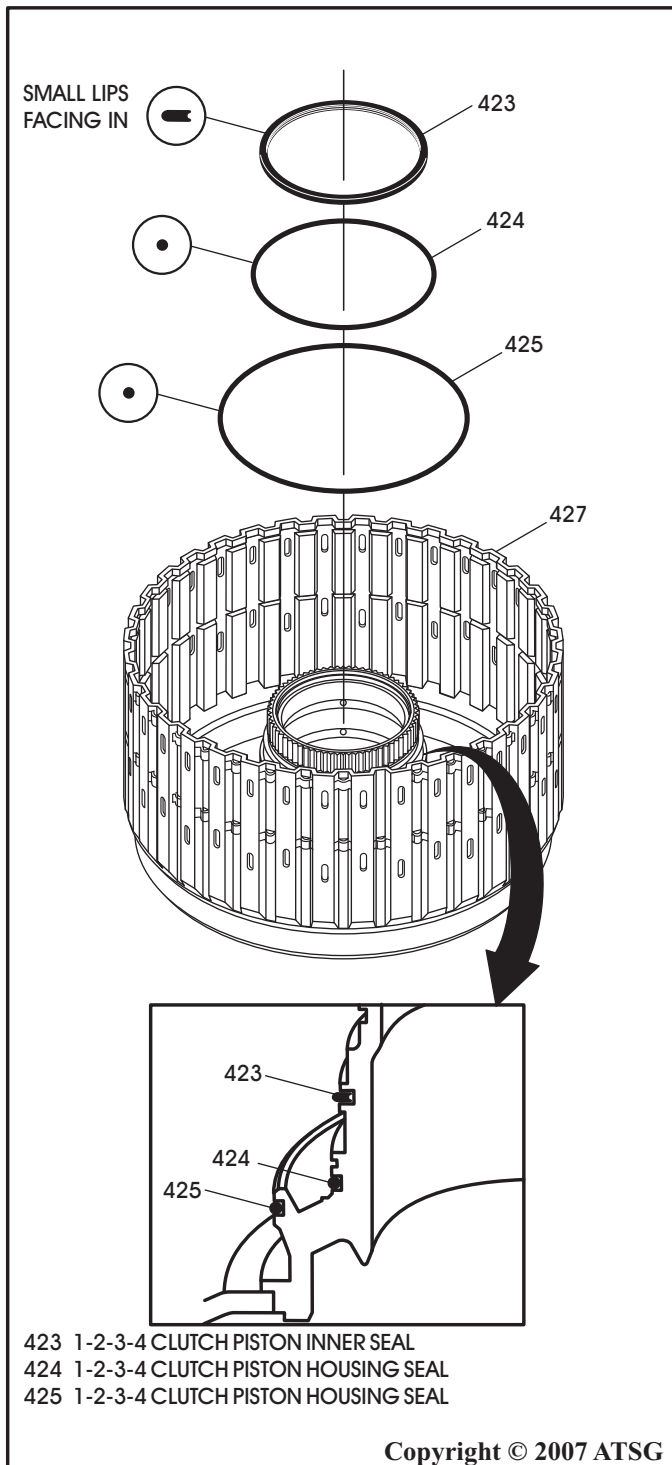

Figure 94
9. Install only the two "O" ring seals into their grooves in the 1-2-3-4 and 3-5 reverse housing hub, as shown in Figure 94.